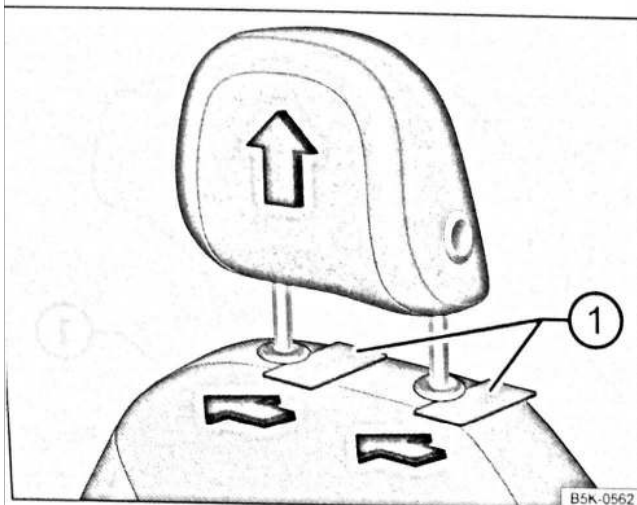

Fig. 48 Removing the front head restraint
- To release the head restraint, slide a flat object such as a plastic card between the backrest cover and the caps on the head restraint guide pins $\Rightarrow$ Fig. 48 (1) while a second person pulls the head restraint out fully.